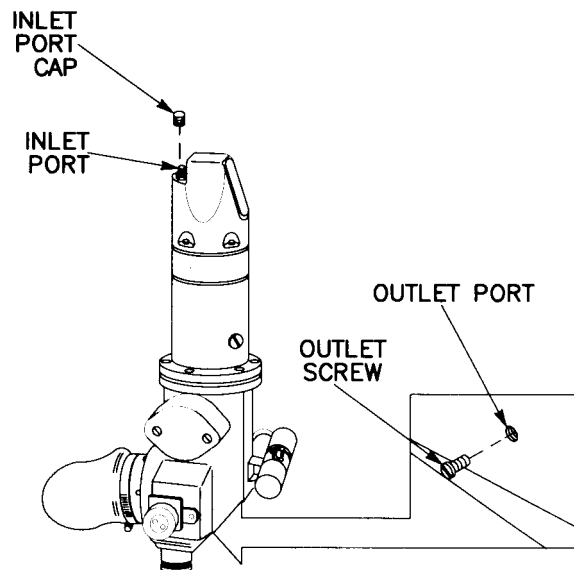

Figure 3-19 M30C Tank Periscope
- (1) Perform purging and charging procedure para 2-5.b.
- (2) Purge instrument at 5 psig for 10 minutes.
- (3) Charge instrument at 1 psig maintaining pressure for 10 seconds.
- (4) Leak test for minimum of 5 minutes.
- b. Periscope, M30C Tank (fig. 3-19).